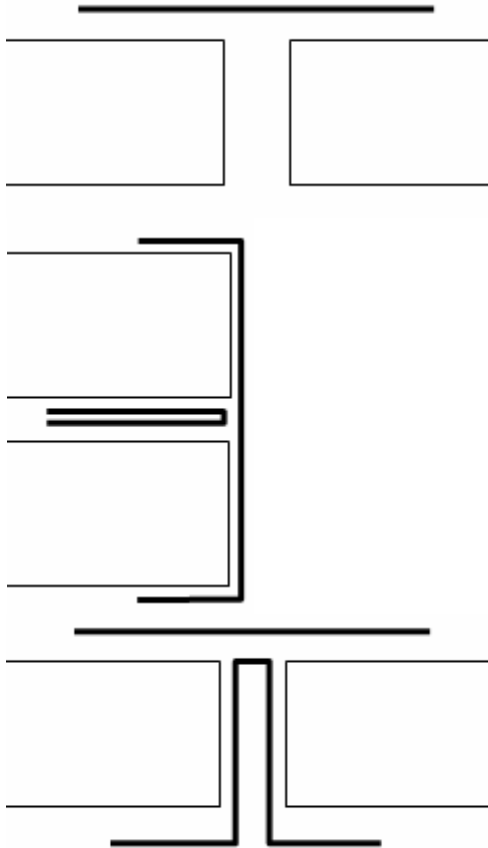

Figure 4: taping a hinge
2. To make hinges, whether for doors, windows, or for pieces that can be stored & transported together, use a taped hinge as shown in Figure 4. Making permanent hinges for some sections will reduce assembly time as well as minimize introducing dust in some of the taped sections (you do some of the taping off Playa).
- a. The straight taped side should face outside (Figure 4, top).
- b. After the straight tape is applied, fold backward and tape the exposed edges (Figure 4, center).
- c. In its extended position, the hinge is shown in Figure 4, bottom.